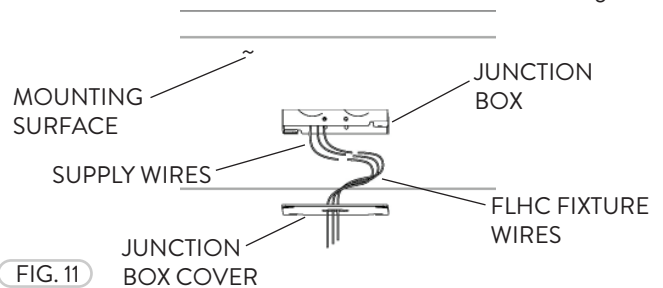

FIG. 11
- 3 After the FLHC Fixture is properly secured into place, refer to the Wiring Diagram to install the Fixture to an AC Power Supply. All connections must be made inside a J-Box (not included) (Fig. 11).